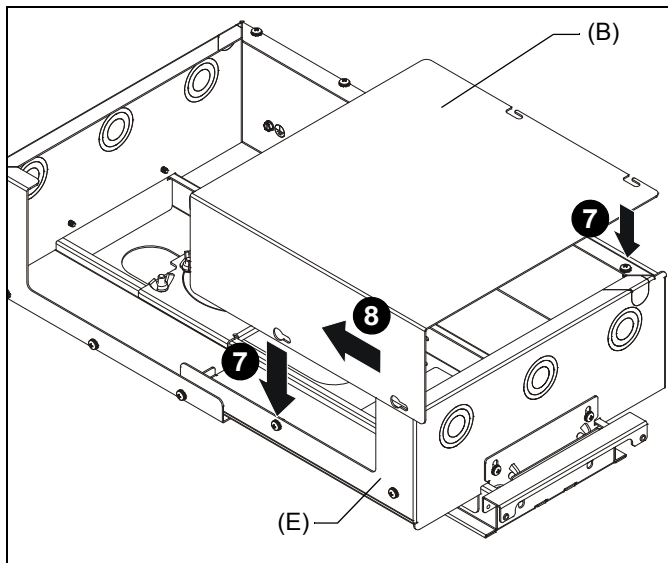

Figure 6
7. Lower cover-right (B) over box body-right (E) and place over Phillips screws fastened into box body lower and upper edges. (See Figure 6)
8. Slide cover to securely fasten over Phillips screws. (See Figure 6)